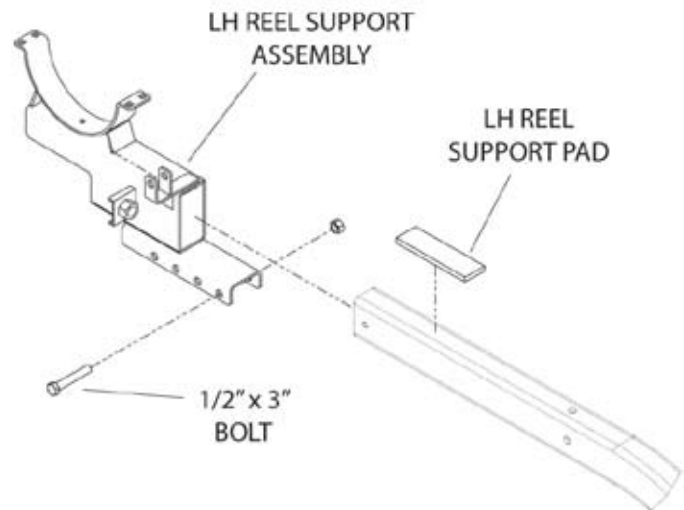

Figure 29, Reel support installation for MF 9750 (LH arm shown)
1. Slide the short LH reel support pad inside the LH reel support assembly (Figure 29). The pad is held in place by two metal tabs on the reel support.